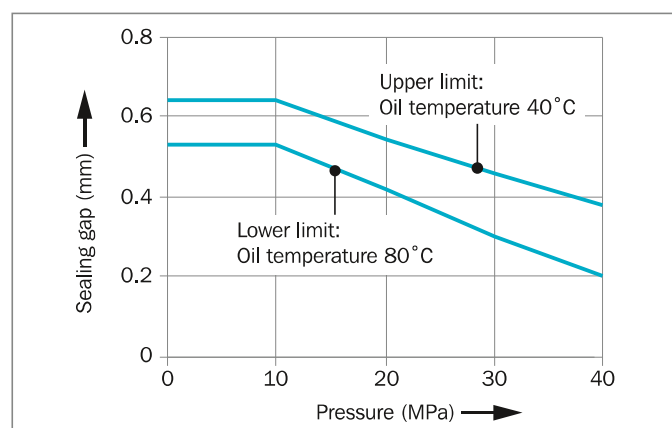

Figure 42: Sealing gap
The recommended gap dimensions described in Figure 42, depend on pressure and temperature.
* Gap measure "S" see Figure 42